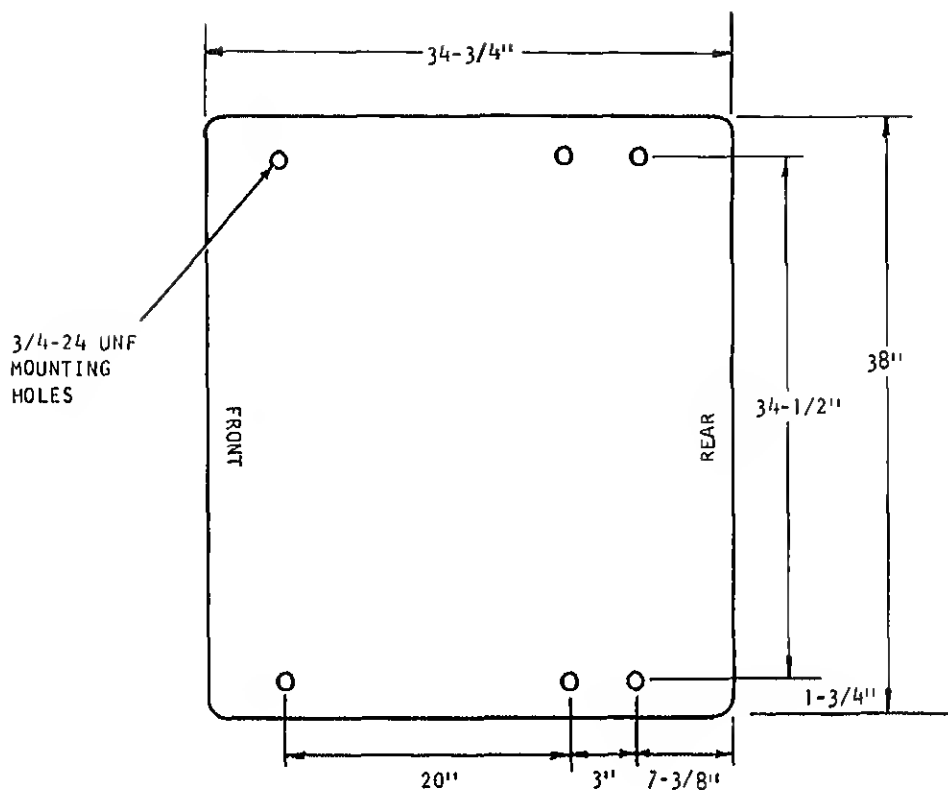
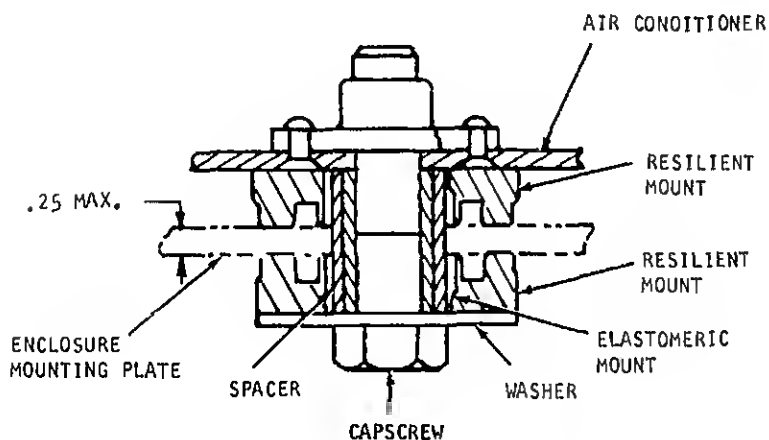

Figure 2-2. Base mounting holes
Figure 2-3. Typical installation of air conditioner to enclosure
c. Mounting. Base mounting hole dimensions are shown on figure 2-2. Resilient mount parts shown in figure 2-3 are shipped with the air conditioner.